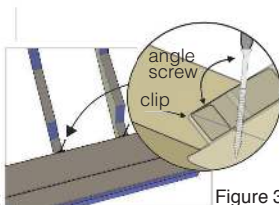

Figure 3
- **TIP:** Remove screw from clip and re-drive at 45° angle to avoid driver interference with stringer (fig 3).